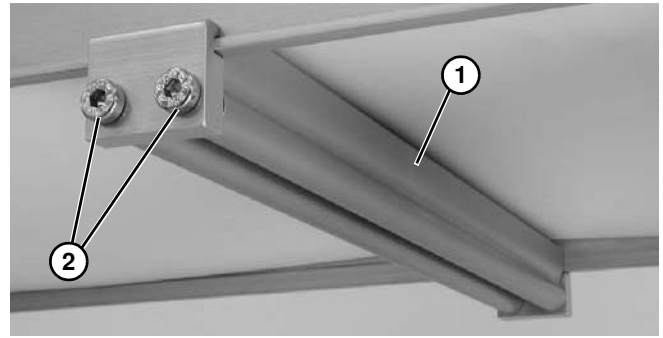

Figure 18
3. Install roller assembly as shown (**Figure 18, item 1**). Tighten screws (**Figure 18, item 2**) to 7 Nm.